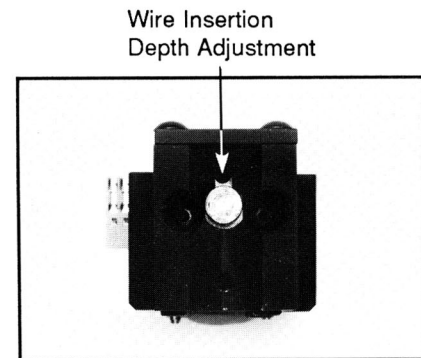

Figure 4
4. Because CHG connectors can accommodate a wide range of wire styles and gauges as shown in Table 2, Page 4, the wire insertion depth must be controlled to maintain termination quality. To assure the correct wire insertion depth, a depth **adjustment** may be necessary. To adjust the wire insertion depth, a set screw in the base of the Assembly Head (See Figure 4) is adjusted. Use the 1/16" allen wrench (provided) to rotate the adjustment set screw. Clockwise will seat the wire deeper and counter clockwise will seat the wire higher.